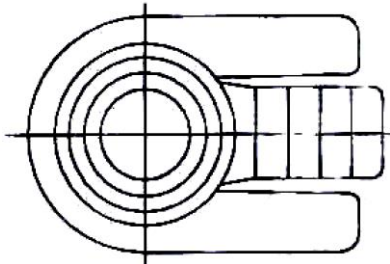

Figure 1
**ATTENTION:** The load must be on the full area of the plate (see figure 1).
**IMPORTANT POINT:** The load should be centered to the centerline to avoid deformations. Tighten the unload handle (16) tightly before lifting. Then press and lift the operating handle up and down repeatedly to pump the pressure to lift the load. The lifting movement can be stopped immediately by stopping the pumping action.